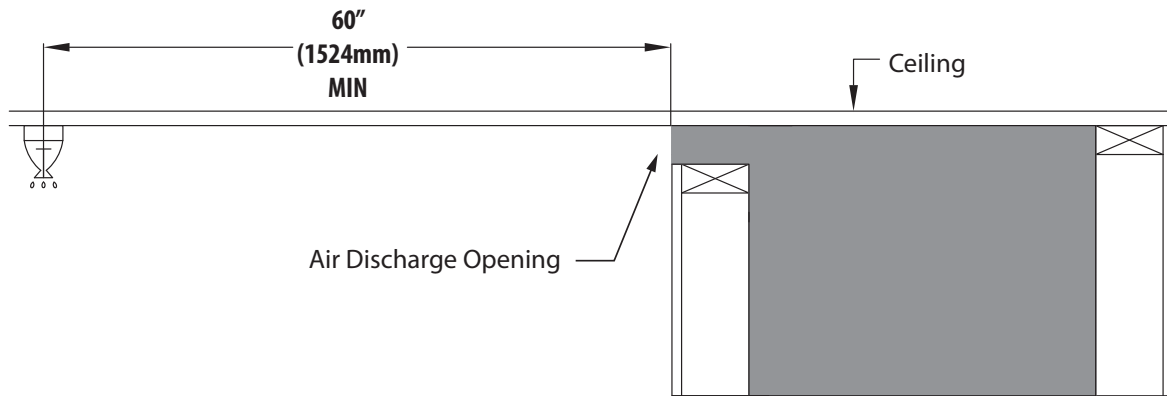

Figure 3.17, Clearance from Air Discharge Opening to Sprinkler Head
- In a situation where a sprinkler head is installed within the proximity of a vented cavity air discharge opening, Figure 3.17 MUST be followed.